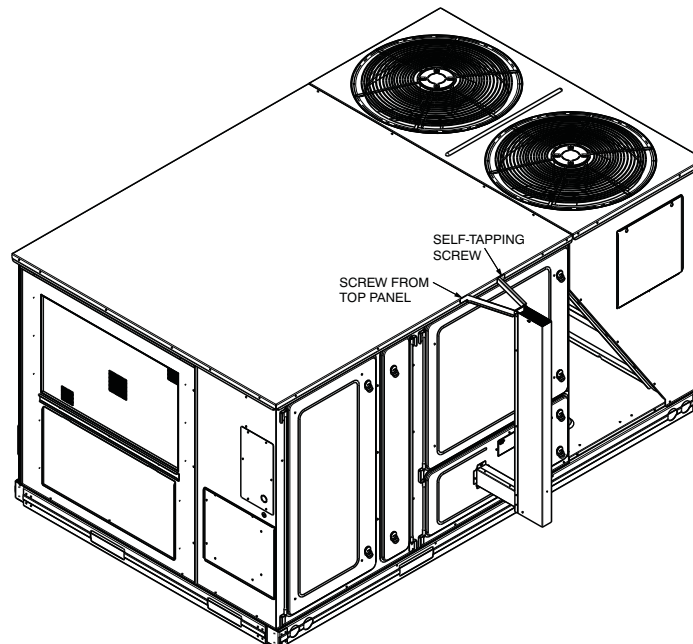

Fig. 3 - Flue Discharge Deflector Installed on Unit (48PG08-14 Shown)
6. Mount the horizontal leg of the flue discharge deflector to the unit as shown in Fig. 3. Use screws saved from Step 3 and 2 self-tapping screws provided.